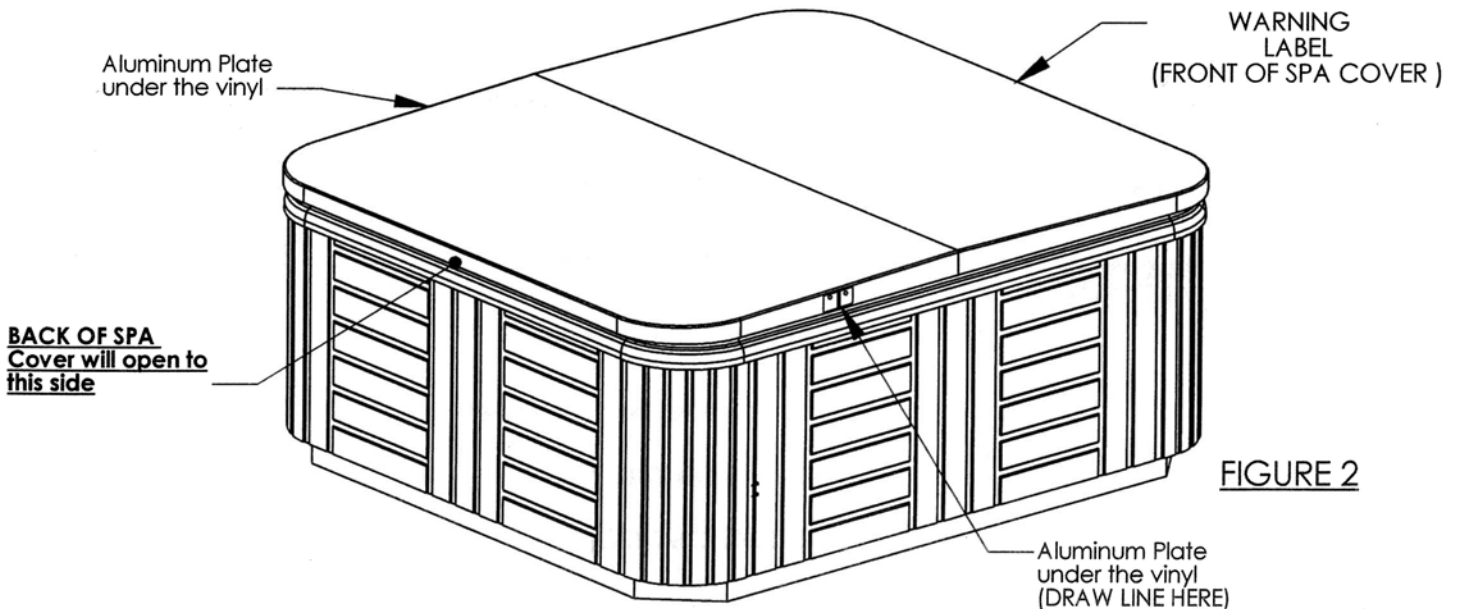

FIGURE 2
- Find the aluminum plate located beneath the vinyl encasment as shown in Figure 2.
- Use your fingers to locate the two predrilled holes in the aluminum plate illustrated by the two dimples (see below). Use a pencil, draw a small vertical line in the center of the two predrilled holes(see Figure 2 below). This line will be used to align the Channel in Step #4.